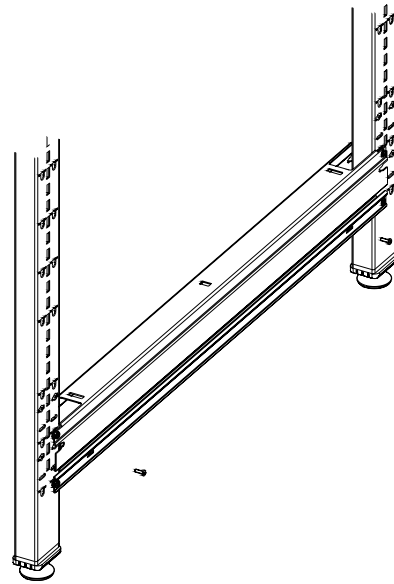

Figure 2
- D. Secure the channel in place with the provided screws through the slots in the horizontal channel (see Figure 2).